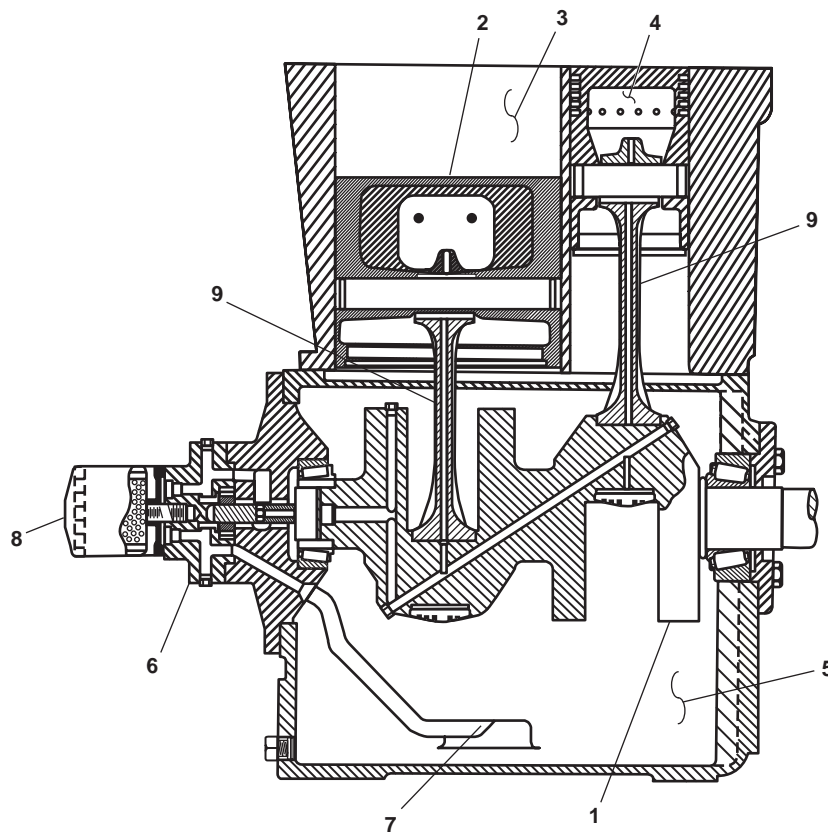

Figure 2. Air Compressor
The compressor's crankshaft (figure 2, item 1) is turned by an electric motor, via a V-belt drive. As the crankshaft turns, the pistons move up and down. During the downstroke of the low-pressure piston (figure 2, item 2), air is drawn through an intake valve in the head of the compressor into the low-pressure cylinder (figure 2, item 3). During the upstroke of the piston, this air is compressed.
The air that was compressed by the low-pressure piston (figure 2, item 2) is then released through a discharge valve in the head of the compressor to a finned tube intercooler where the heat resulting from compression is allowed to dissipate. The cooler compressed air is then drawn into the high-pressure cylinder by the downstroke of the high-pressure piston (figure 2, item 4). On the upstroke of the high-pressure piston, the air is further compressed before being discharged through a discharge valve in the compressor head. At this point, the compressed air enters the vessel's compressed air piping system enroute to the starting air receivers.
The air compressor is pressure lubricated. The moving parts within the crankcase (figure 2, item 5) are supplied with lubrication by a positive displacement, gerotor type oil pump (figure 2, item 6). Oil is drawn up from the bottom of the crankcase to the oil pump through an oil sump strainer screen (figure 2, item 7). The oil is then forced under pressure through the oil filter (figure 2, item 8). After being filtered, the oil travels under pressure through drilled journals in the crankshaft (figure 2, item 1) and connecting rods (figure 2, item 9) to lubricate crankshaft bearings, wrist pin bearings, and the cylinder walls.